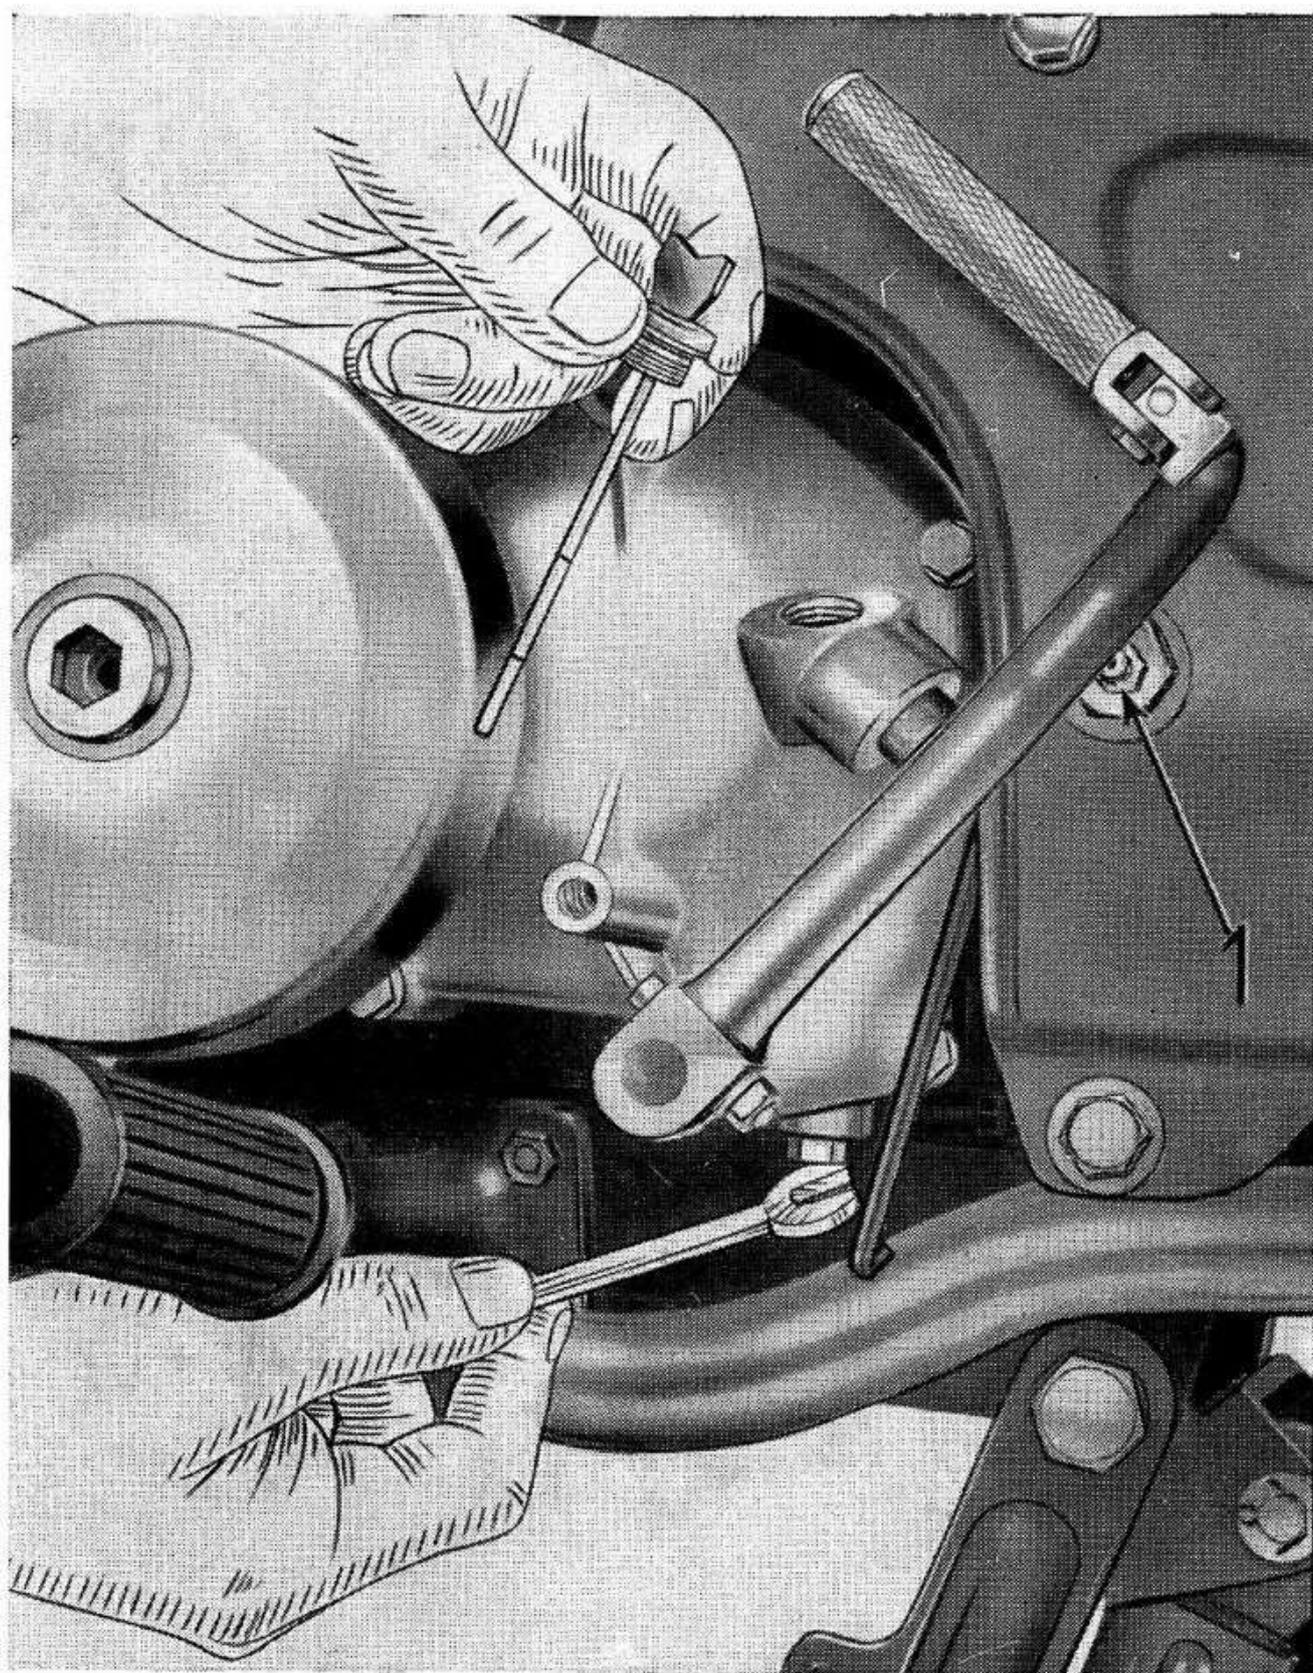

Fig. 5
The engine itself is automatically lubricated by the presence of oil in the mixture. To replenish the gear box and transmission, take off the left hand crankcase cover and through the filler plug (fig. 4) introduce a fresh supply of oil of the same quality as used for the mixture. Its level should not exceed the mark on the dipstick fitted to the oil filler plug. This oil should be changed after the first 600 miles and annually or after about every 6000 miles. This operation should be done when the engine is hot. Every 600 miles it is advisable to check the oil level and if necessary fill up to level. To change the oil, take off the rear brake lever and remove the drain plug (fig. 5). Lean the machine over to the left and allow the oil to drain away.
- Swinging arm spindle. The nipples will be found on the left bottom side of the machine (see fig. 5, 1).